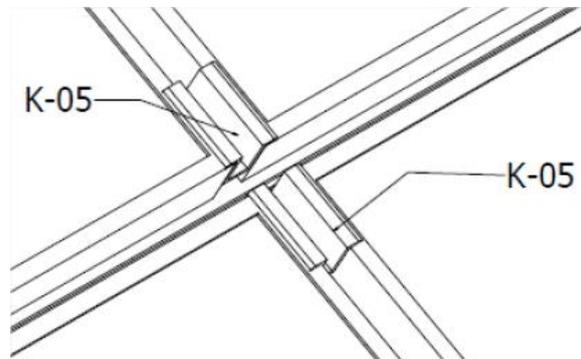

Figure 19. Maintain equal distance between modules in a row
- 19.** The modules should be installed row by row starting from the bottom row and after pre-tightening the bottom row of clamps. Center clamps can be used as a spacer between modules, with the aim of mounting at equal intervals in a given row, Figure 19, and should be pulled out after installation.